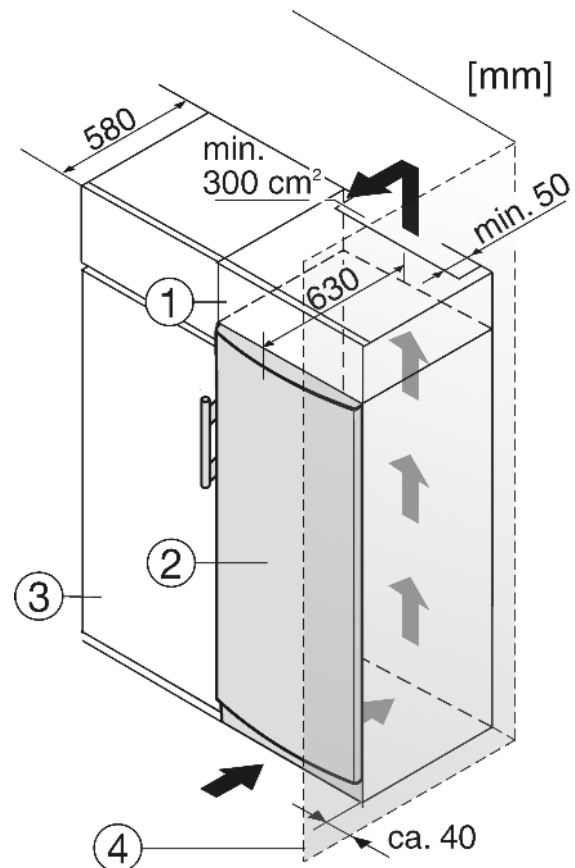

Fig. 8
- (1) Stack cabinet
- (2) Appliance
- (3) Kitchen cabinet
- (4) Wall
The appliance can be inserted into a row of kitchen units. To match the appliance Fig. 8 (2) to the height of the row of units, a suitable stack cabinet Fig. 8 (1) can be fitted above the appliance.
When inserting the appliance into a row of kitchen units (max. depth 580 mm), the appliance can be installed directly next to the kitchen unit Fig. 8 (3). The appliance door projects relative to the front of the kitchen unit by 34 mm at the side and by 50 mm in the middle of the appliance. It can be opened and closed perfectly as a result.
If the appliance is installed with the hinges next to a wall Fig. 8 (4), the distance between appliance and wall has to be at least 40 mm. This corresponds to the projection of the handle when the door is open.